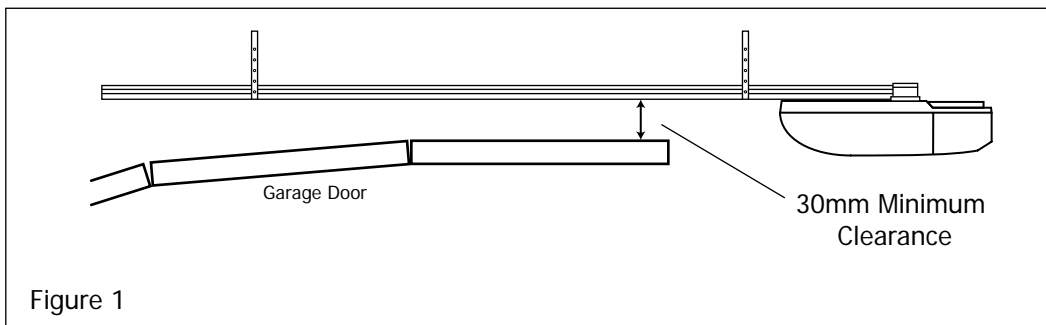

Figure 1
- * There should be a minimum gap of 30mm between the bottom of the chain drive rail and the top of the garage door at it's closest point. (Refer Fig. 1)